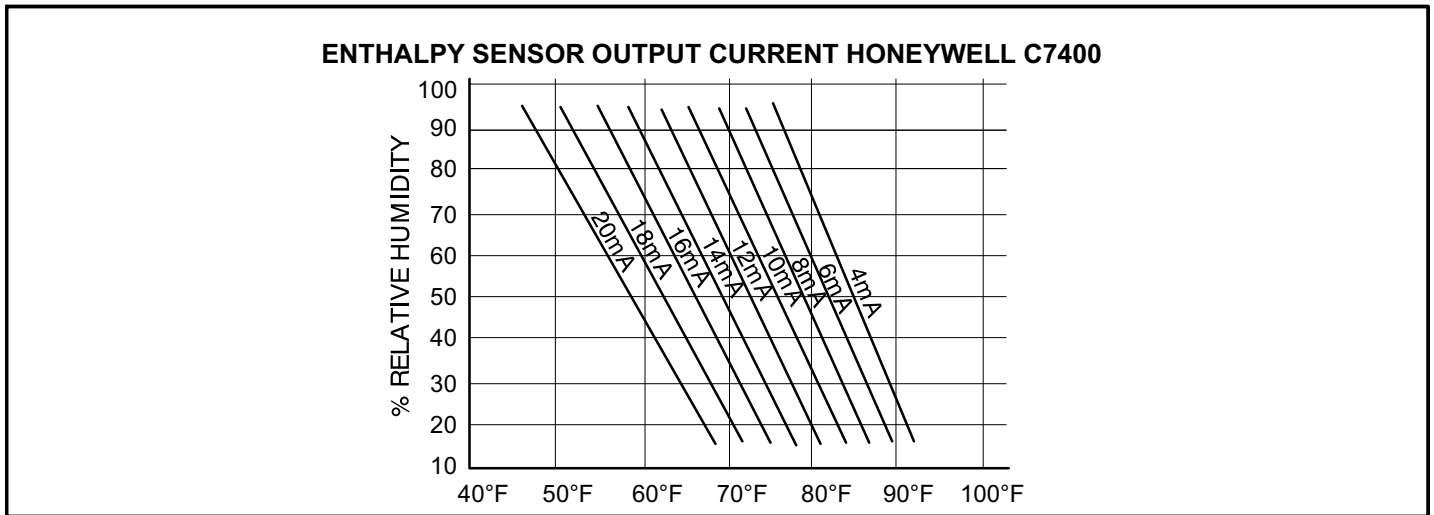

FIGURE 12
This setting pertains to the single enthalpy free cooling mode only. The M3 Unit Controller will enable free cooling when outdoor air enthalpy (A7) is less than the enthalpy set point (Parameter 162 - ECON FREECL ENTH SP). Figure 12 shows the approximate enthalpy sensor output at various temperatures and percentage of relative humidity.
- B The reading will be between 4 and 20 ma. depending on outdoor temperature and humidity. Refer to figure 12 to approximate reading.